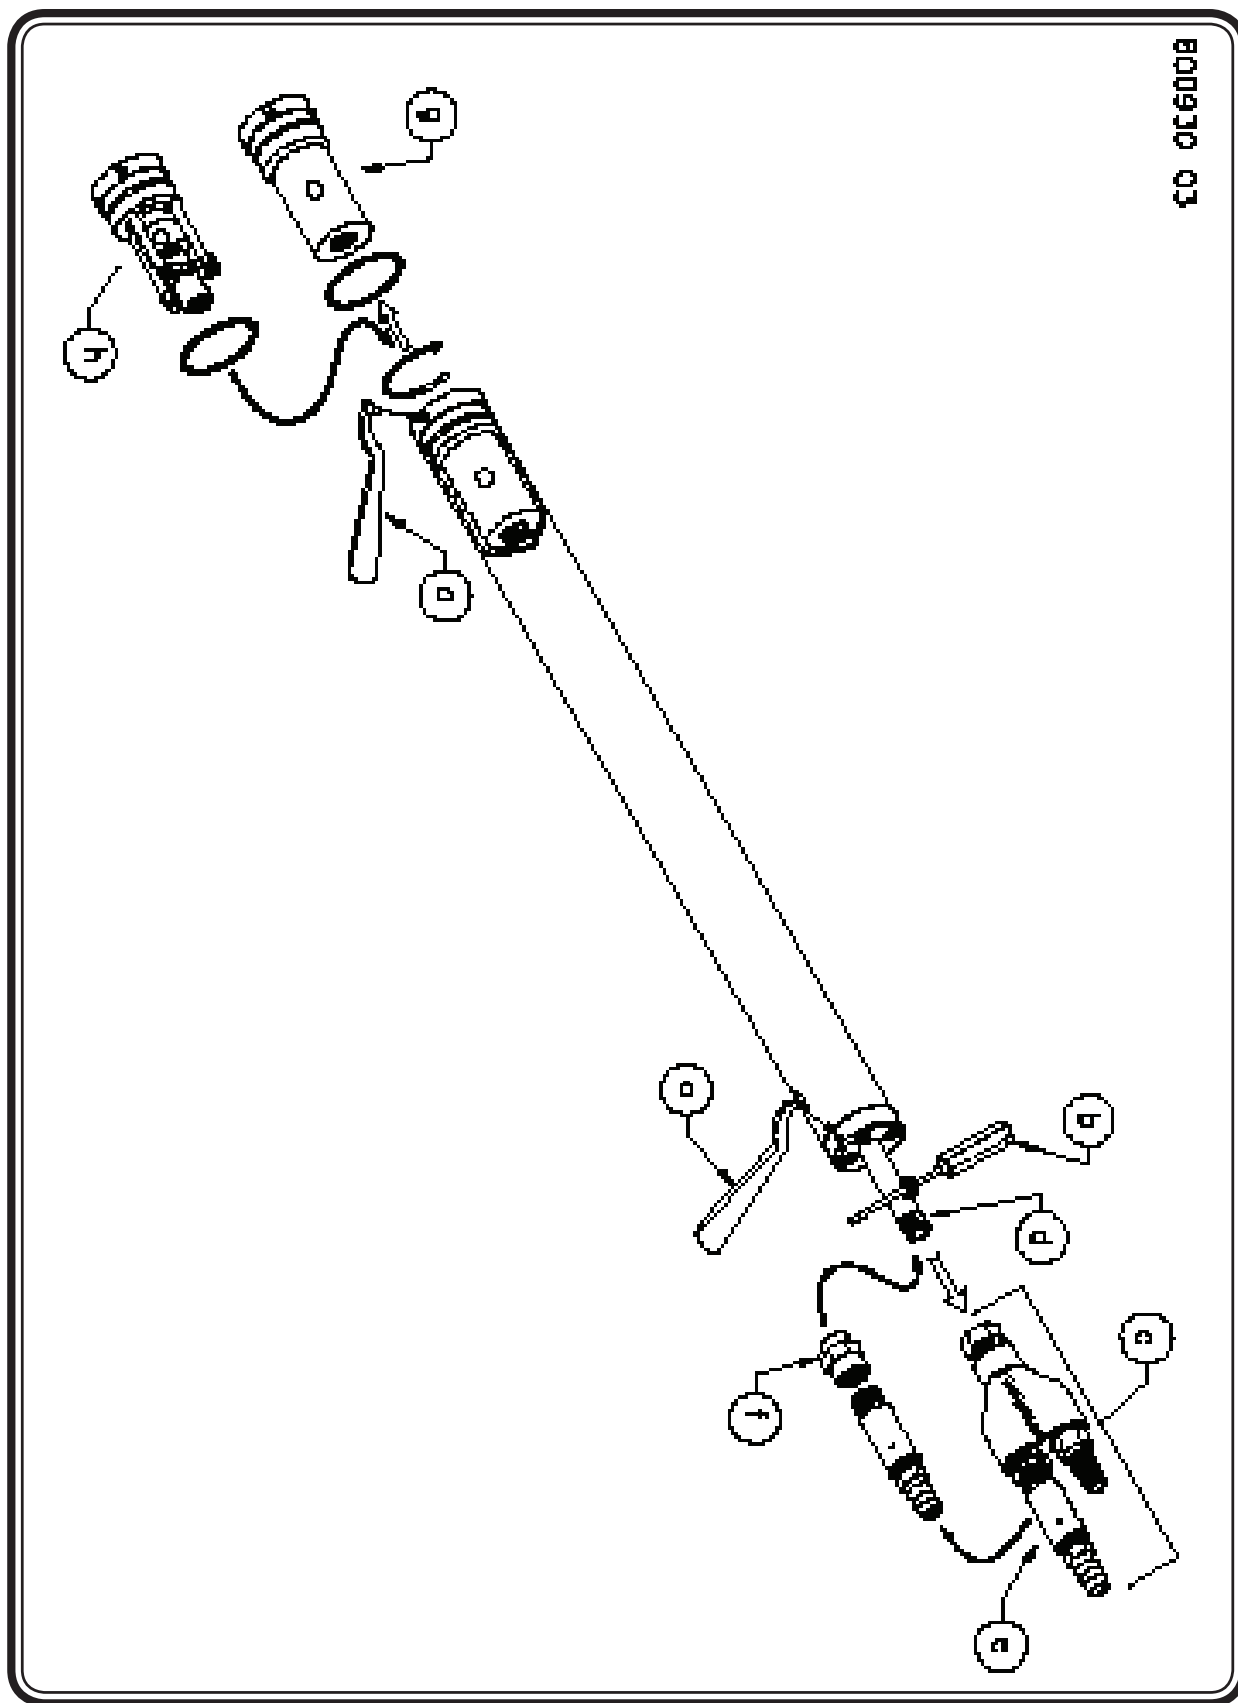

Figure 51 - Conversion from Top-Loading to Bottom Loading
1. Secure the pump with a spanner wrench “A” on the head or with a screwdriver “B” through the support ring. **(See Figure 51)**
2. Unthread the “WYE” assembly “C” from the pump and clean the threads “D” on the pump. A strap wrench can be used. **(See Figure 51)**
3. Unthread the discharge check valve “E” from the wye assembly, clean the threads on the valve, and then wrap them with Teflon® tape. **(See Figure 51)**
4. Thread the discharge check valve into the coupling reducer “F”, making sure the pinned end is up, and thread the coupling on the pump discharge pipe “D”. Tighten the valve and coupling. **(See Figure 51)**
5. Unscrew the bottom plug “G” from the pump using a spanner wrench. If the casing comes off with the plug, the plug may be knocked out with a wooden 2”x2” (50mm X 50mm) or similar blunt tool inserted into the open end of the casing. **(See Figure 51)**
6. Remove the o-ring from the plug and install it on the bottom of the check valve “H”. **(See Figure 51)**
7. Lubricate the first 3/4 in (19 mm) of the inside of the casing with food-grade Teflon-filled grease. **(See Figure 51)**
8. Spin the bottom check valve on the pump with a spanner wrench. Do not use sealant or tape. **(See Figure 51)**